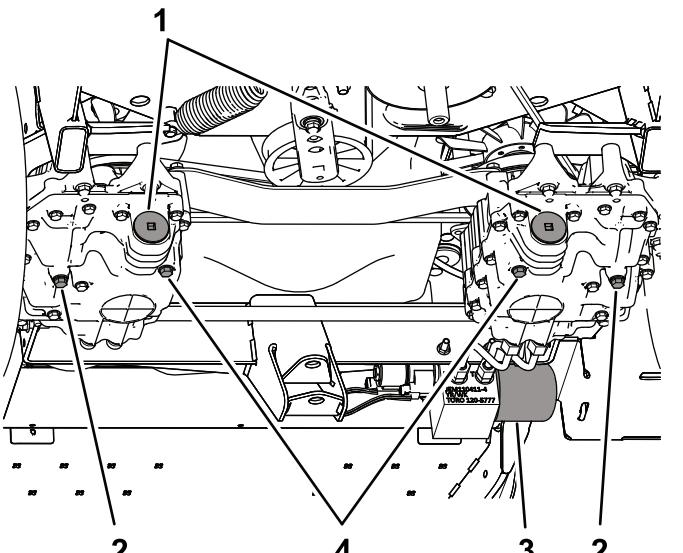

Figure 69
- Remove the drain plug on the pump side and the drain plug on the gear side (Figure 69), and allow the oil to drain completely.